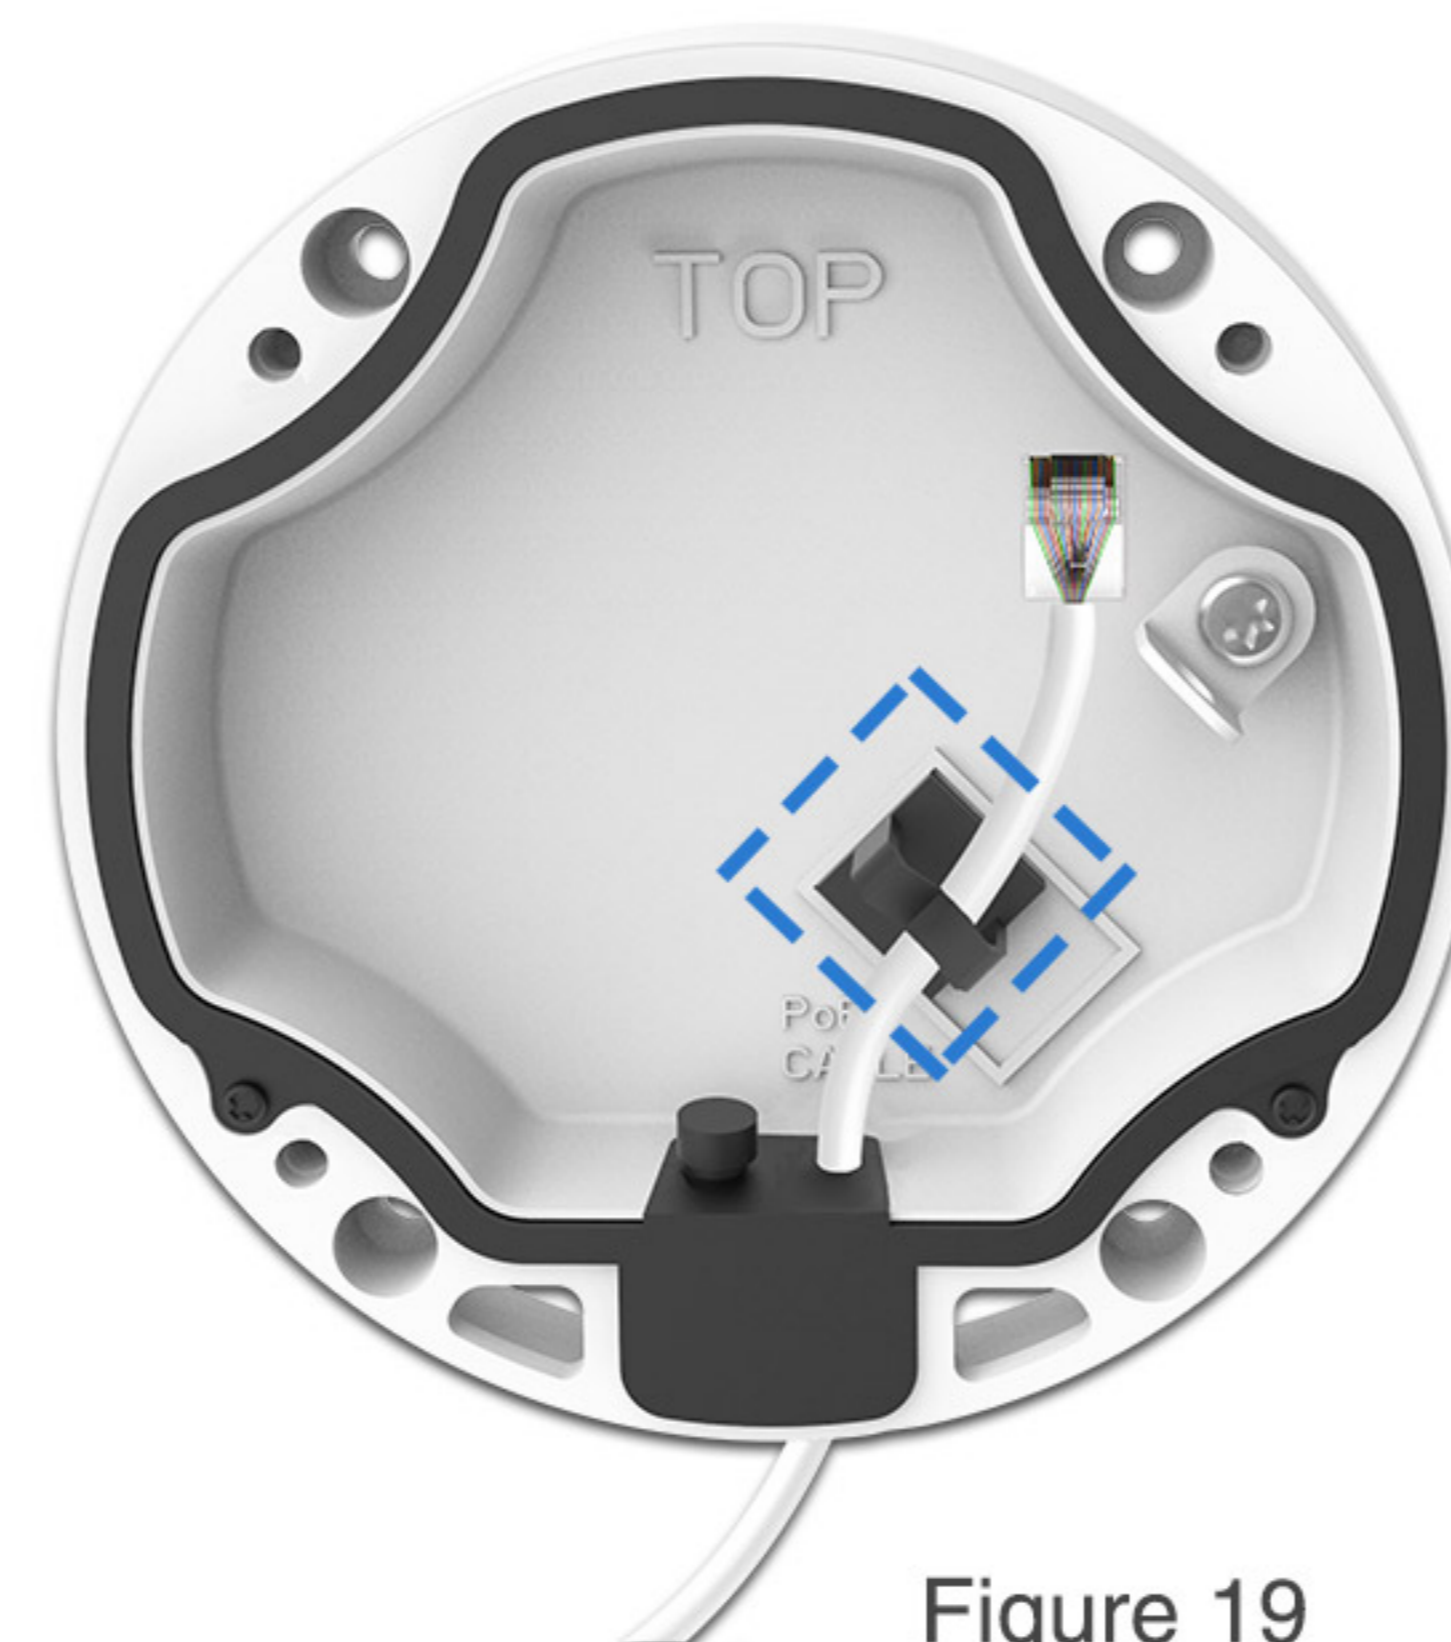

Figure 19
Step 3: Adjust the cables to a suitable length and place, then connect the cables to the corresponding interfaces. Buckle the cables by the Black Clamp on the Base in case that the cables turning twisted and mussy (Figure 19). Plug the Black Rubber Plug back to the Cable Entry Hole to prevent the ingress of dust or water;